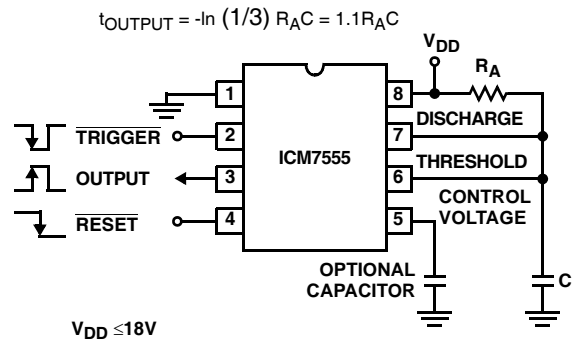

FIGURE 3. MONOSTABLE OPERATION
In this mode of operation, the timer functions as a one-shot. See Figure 3. Initially the external capacitor (C) is held discharged by a transistor inside the timer. Upon application of a negative  $\overline{\text{TRIGGER}}$  pulse to pin 2, the internal flip-flop is set which releases the short circuit across the external capacitor and drives the OUTPUT high. The voltage across the capacitor now increases exponentially with a time constant  $t = R_A C$ . When the voltage across the capacitor equals  $\frac{2}{3} V+$ , the comparator resets the flip-flop, which in turn discharges the capacitor rapidly and also drives the OUTPUT to its low state.  $\overline{\text{TRIGGER}}$  must return to a high state before the OUTPUT can return to a low state.